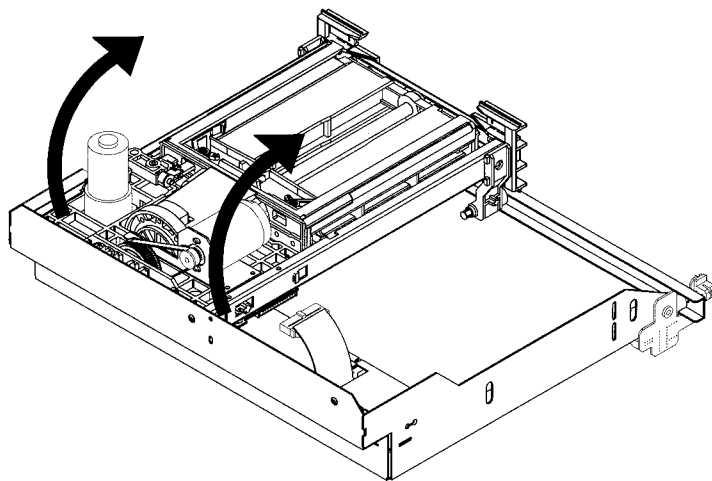

Figure 29: Rotating the Picker Assembly Out of the Translate Frame
10. Tilt up the rear end of the picker and left it out of the frame (see Figure 29).